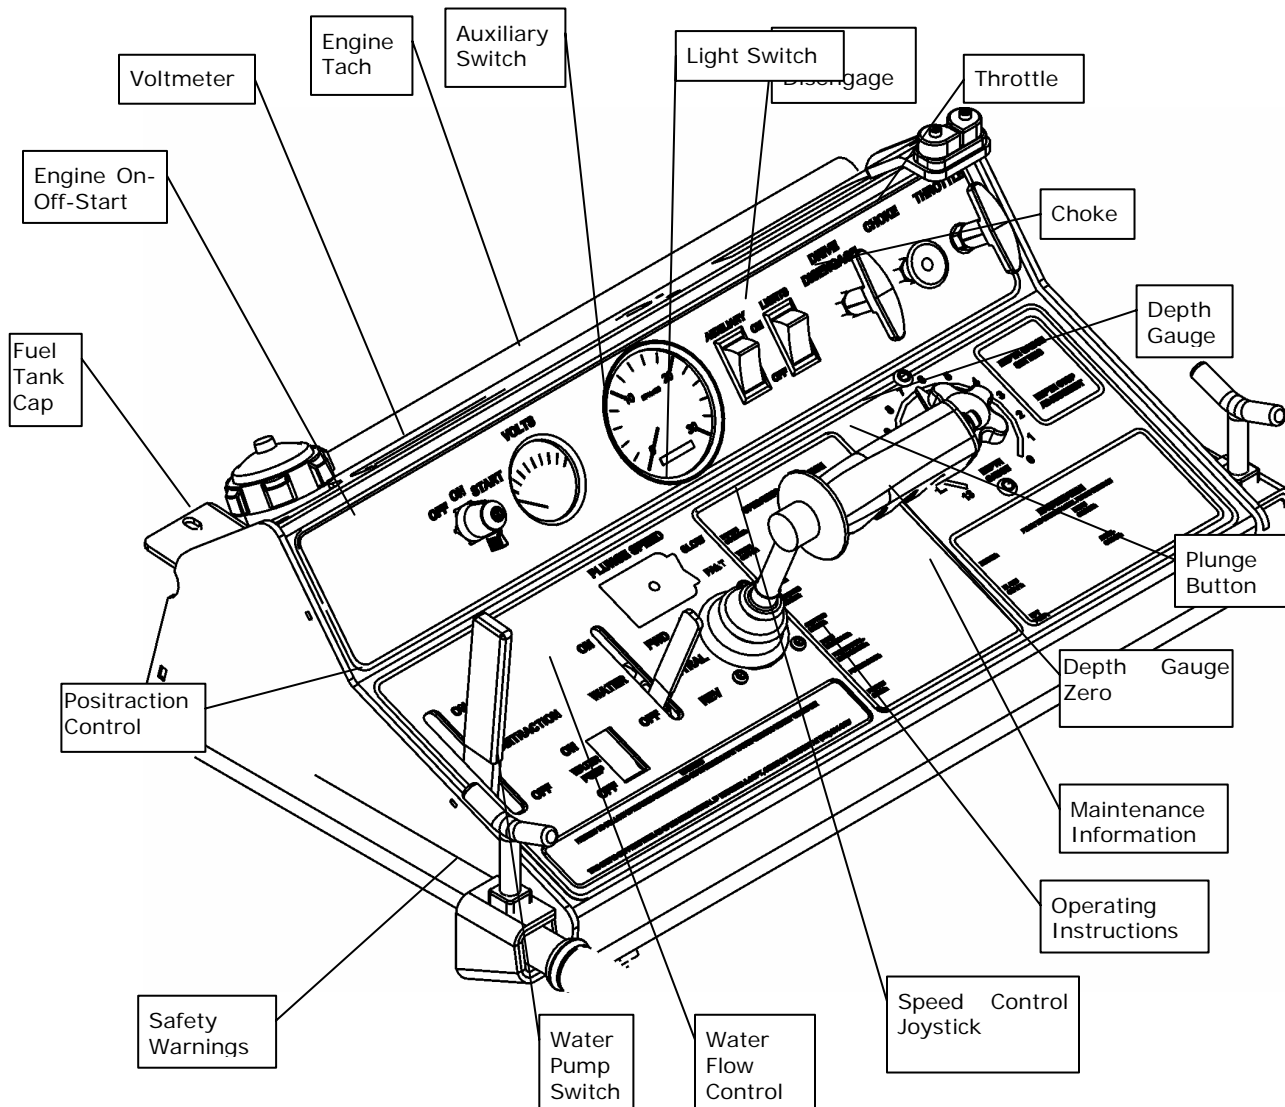
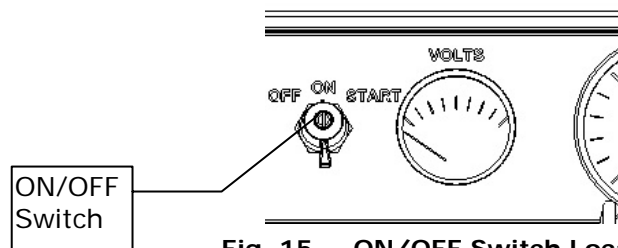

Fig. 5 — The Control Panel
Fig. 15 — ON/OFF Switch Location
1. Ensure on/off switch is off. See Fig. 5 or Fig. 15
1. Ensure on/off key is off. See Fig. 5 or Fig. 15